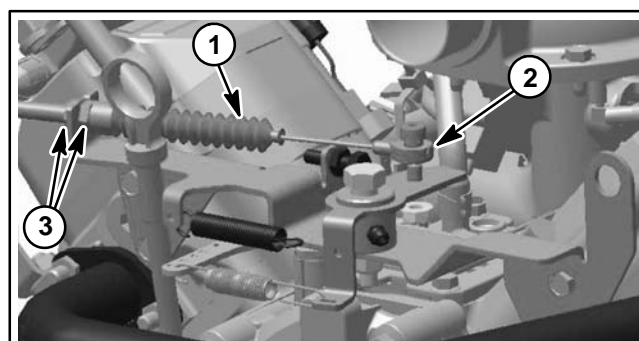

Figure 22
- C. Two (2) machine wire harness connectors from engine wire harness connectors on starter side of engine.
13. Disconnect accelerator cable ball joint from throttle bell crank on engine (Fig. 22). Loosen jam nuts on cable and remove cable from throttle bracket. Position accelerator cable away from engine.
9. Connect accelerator cable ball joint to throttle bellcrank on engine (Fig. 22). Secure cable to throttle bracket with jam nuts.